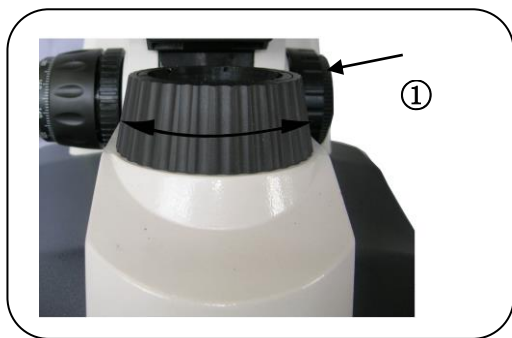

Fig. 10.
10. Field diaphragm adjustment (Fig. 10.)